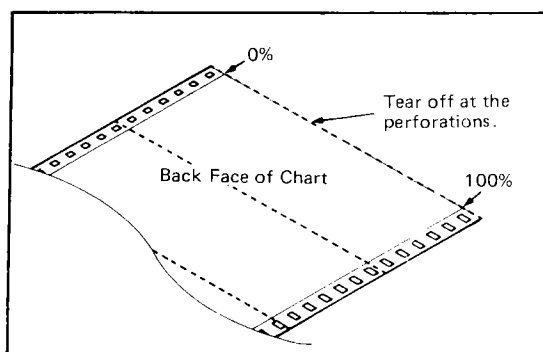

Figure 5-5. Chart End.
- (2) Confirm that the chart end is correctly cut off at a perforated line and is not warped or twisted. (see Figure 5-5).